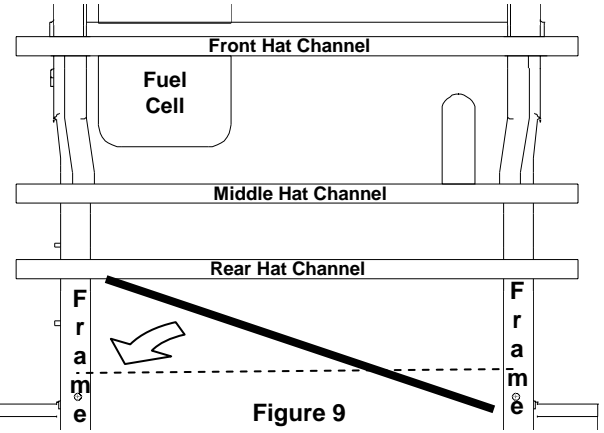

Figure 9
- Insert rails as shown in the following steps (**Figures 9 through 14**). With flat side up rear rail (short rail) should be inserted first. With flat side up insert front rail (long rail) second. Refasten truck bed bolts after rails are inserted.